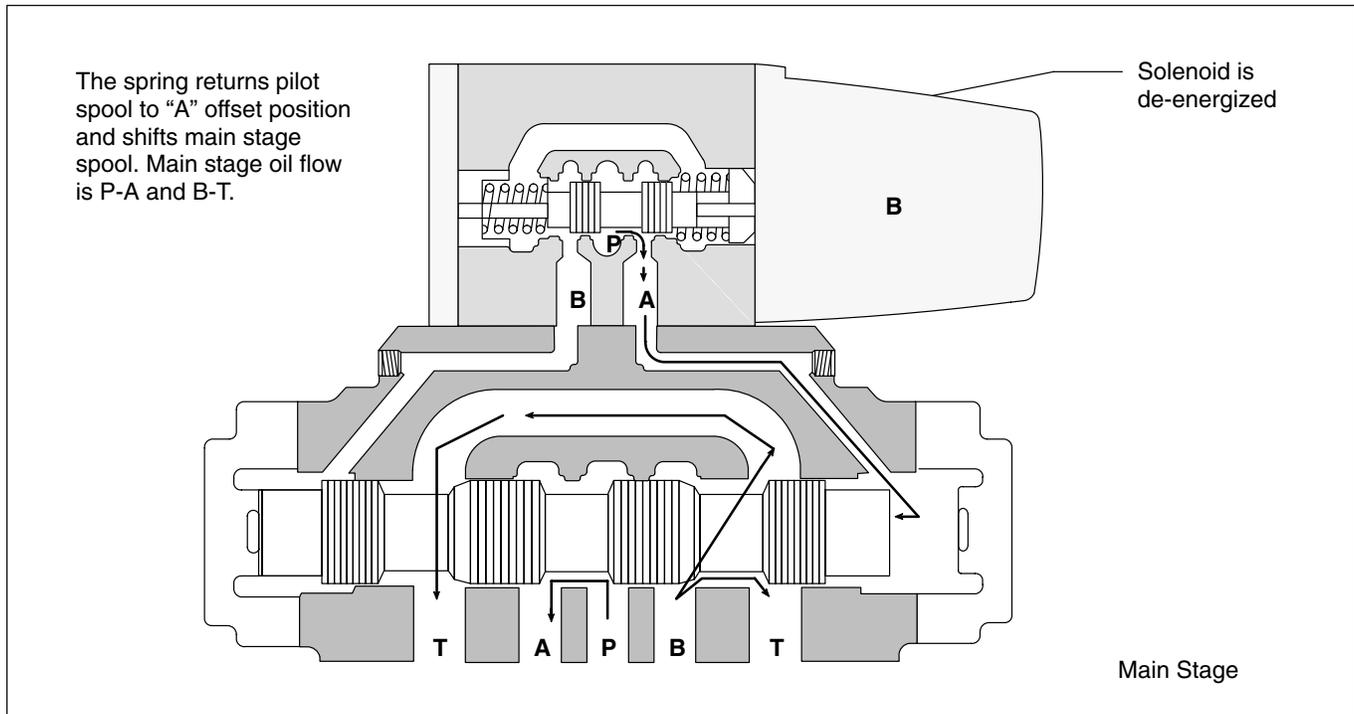

Figure 6. Spring Offset "A" Model
**3. Spring Offset:** Single stage spring offset models use one spring to return the spool to an offset position. In two-stage models, the spring and washer is removed from the main stage and offset action is obtained from the pilot valve. Offset pilots have a solenoid removed from the spring end of the valve. Spring offset pilots control the main stage when the solenoid is de-energized, through spring action, so long as pilot pressure is available. Spring offset valves have the letter "A" stamped into the nameplate (i.e. DG5S4-062A-\*\*-51). Figure 6 illustrates an offset two-stage valve.